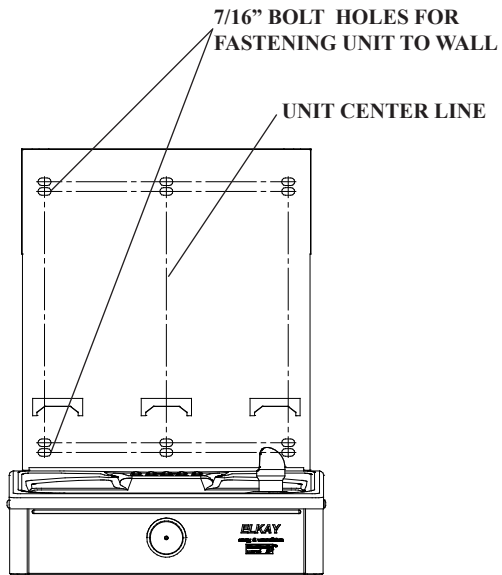

Fig. 5
- 4) Install wall mounting plate to wall using six (6) 7/16" oround mounting holes (mounting bolts not included) (See Fig. 5). Use appropriate fasteners for your wall type.